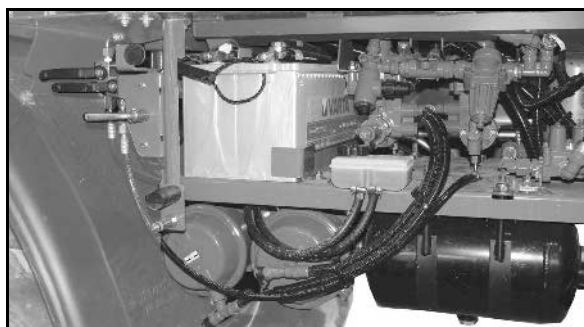

Fig. 171
1. Press the tensioning roller (Fig. 171/1) using a socket (Fig. 171/3) in the direction of the arrow until a Ø6 mm retention pin (Fig. 171/4) can be fixed in the assembly bore.
Now the ribbed V-belt (Fig. 171/2) is free of tension.
2. First remove the ribbed V-belt (Fig. 171/2) from the smallest roller or from the tensioning roller.
4. Apply a new ribbed V-belt (Fig. 171/2).
6. Retension the ribbed V-belt using the tensioning rollers and socket (Fig. 171/3). Check if the ribbed V-belt is fitted correctly in its guide.